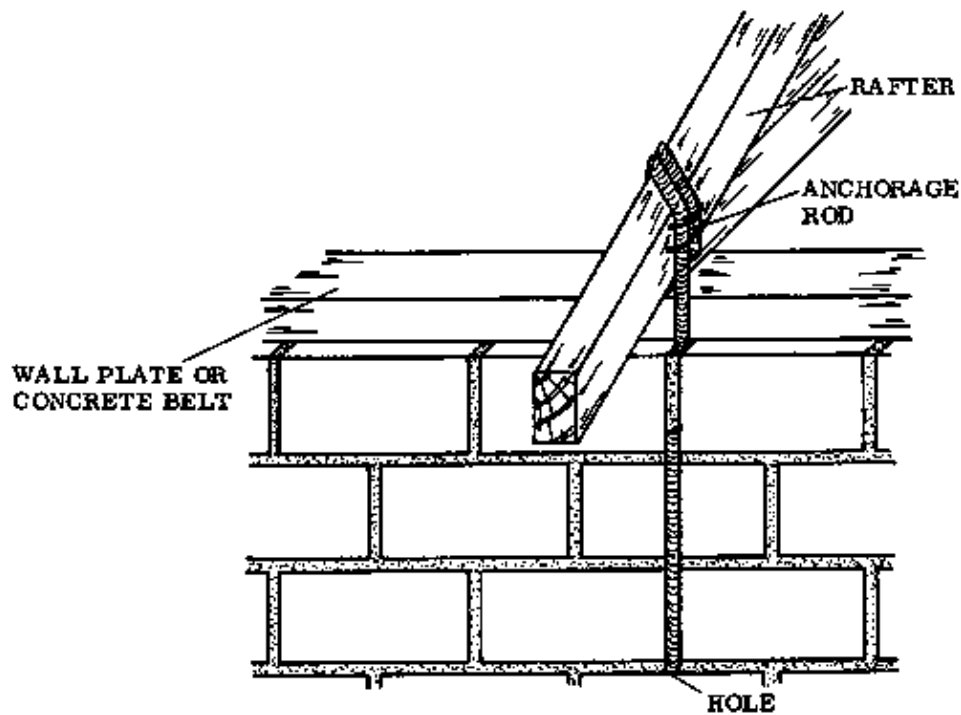

Fig. 3
– With the second method, the rod is inserted through a hole chiselled in the bed joint of the third course from the top, after the wall is complete. The ends of the rod are bent up and over the tie beam and rafter, overlap each other, and are secured on both sides with nails (Fig. 3).